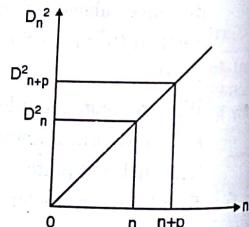

Fig. 2.3.2
- For more accurate approach we plot a graph of D_n^2 vs n as shown in Fig. 2.3.2.
It is similar to Fig. 2.3.2.